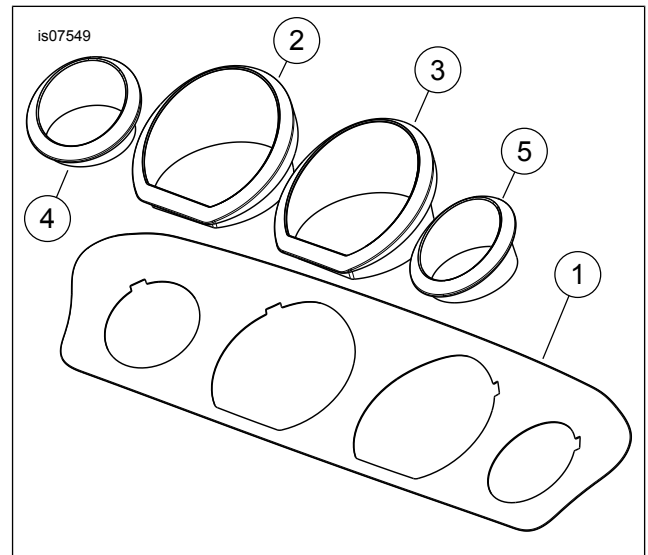

Figure 1. Service Parts: Gauge Trim Kit
See Figure 1 and Table 1.
2. See Figure 1. With the adhesive backing still in place, test fit the faceplate (1) to inner fairing.